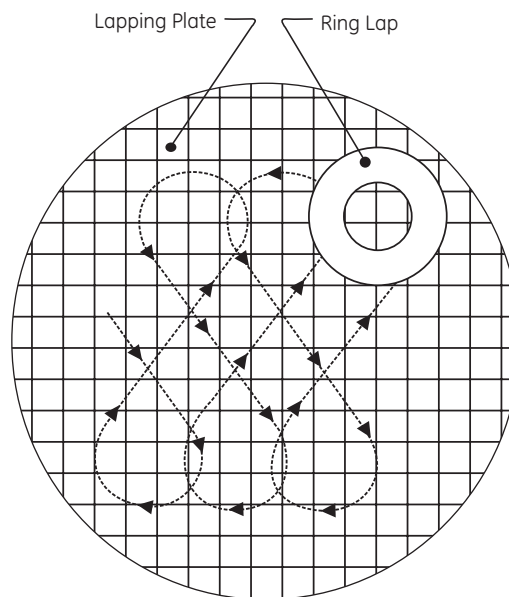

Figure 37: Lapping Pattern
Ring laps are reconditioned by lapping them on a flat lapping plate in a figure-eight motion (Figure 37). To ensure the best results, recondition the ring laps after each use. Use an optical flat to check the quality of the lap.
- The "A" dimension (See Figures 37 and 38) exceeds A max. in Table 6.